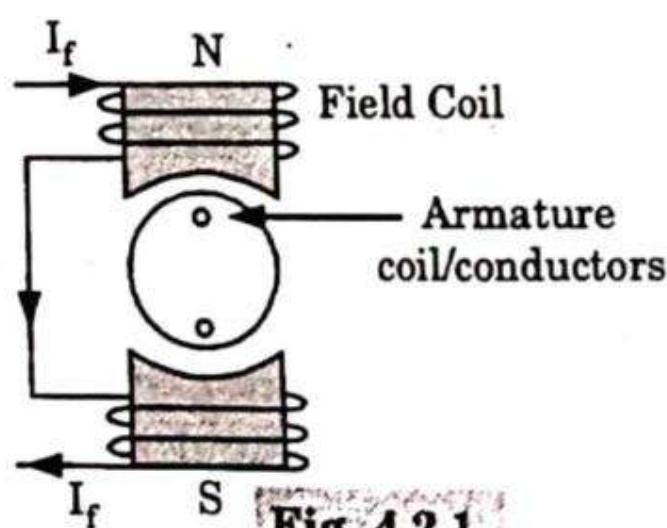

Fig. 4.2.1.
1. DC motor has two basic coils namely field coil and armature coil as shown in Fig. 4.2.1.